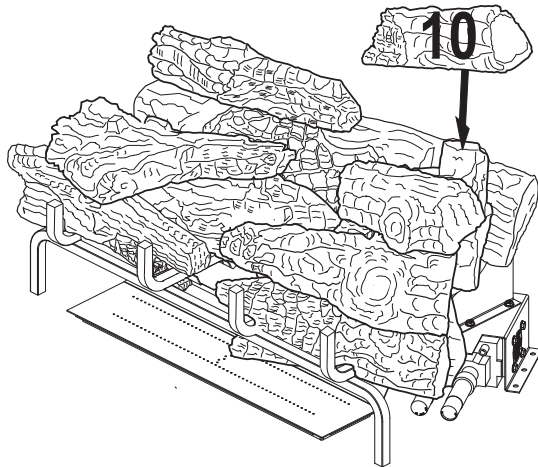

Figure 47 - Installing Log # 10
10. Place the right rear top log (#10) on top of the right rear chunk log (#7) as shown in **Figure 47**. Match the rectangular peg on the top of the right rear chunk log (#7) with the rectangular hole on the bottom of the right rear top log (#10).